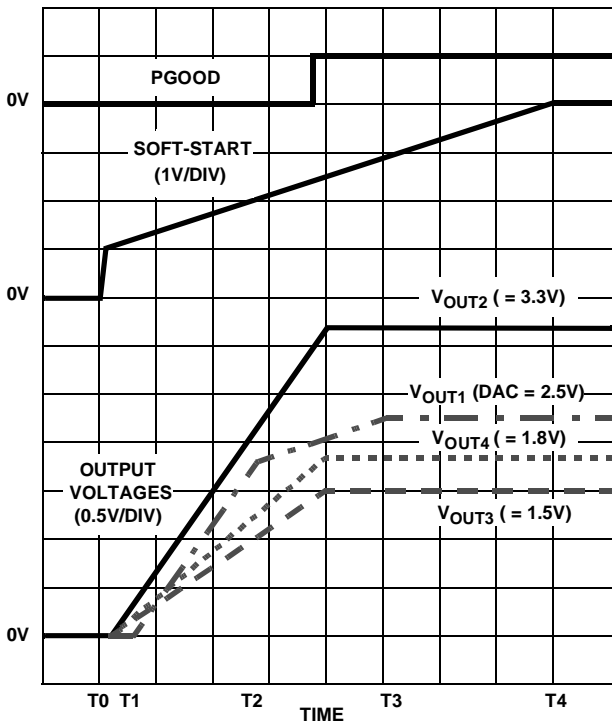

FIGURE 3. SOFT-START INTERVAL
Figure 3 shows the soft-start sequence for the typical application. At T0 the SS voltage rapidly increases to approximately 1V. At T1, the SS pin and error amplifier output voltage reach the valley of the oscillator's triangle wave. The oscillator's triangular wave form is compared to the clamped error amplifier output voltage. As the SS pin voltage increases, the pulse-width on the PHASE pin increases. The interval of increasing pulse-width continues until each output reaches sufficient voltage to transfer control to the input reference clamp. If we consider the 2.5V core output (V_{OUT1}) in Figure 3, this time occurs at T2. During the interval between T2 and T3, the error amplifier reference ramps to the final value and the converter regulates the output a voltage proportional to the SS pin voltage. At T3 the input clamp voltage exceeds the reference voltage and the output voltage is in regulation.
sets the fault latch. The over-current latch is set dependent upon the states of the over-current (OC), linear under-voltage (LUV) and the soft-start signals. A window comparator monitors the SS pin and indicates when C_{SS} is fully charged to 4V (UP signal). An under-voltage on either linear output (VSEN2, VSEN3, or VSEN4) is ignored until after the soft-start interval (T4 in Figure 3). This allows V_{OUT2} , V_{OUT3} , and V_{OUT4} to increase without fault at start-up. Cycling the bias input voltage (+12V_{IN} on the VCC pin off then on) resets the counter and the fault latch.
Initially, the soft-start function clamps the error amplifier's output of the PWM converter. This generates PHASE pulses of increasing width that charge the output capacitor(s). After the output voltage increases to approximately 70% of the set value, the reference input of the error amplifier is clamped to a voltage proportional to the SS pin voltage. The resulting output voltages start-up as shown in Figure 3.